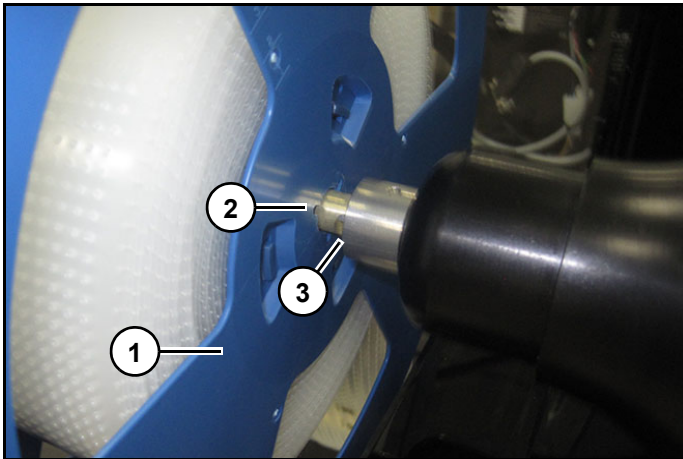

Figure 3
2. Load Array Tape spool (1) on spindle (2) by aligning grooves (3) of spool with keys on back of spindle. Turn spindle so keys lock. (Figure 3)